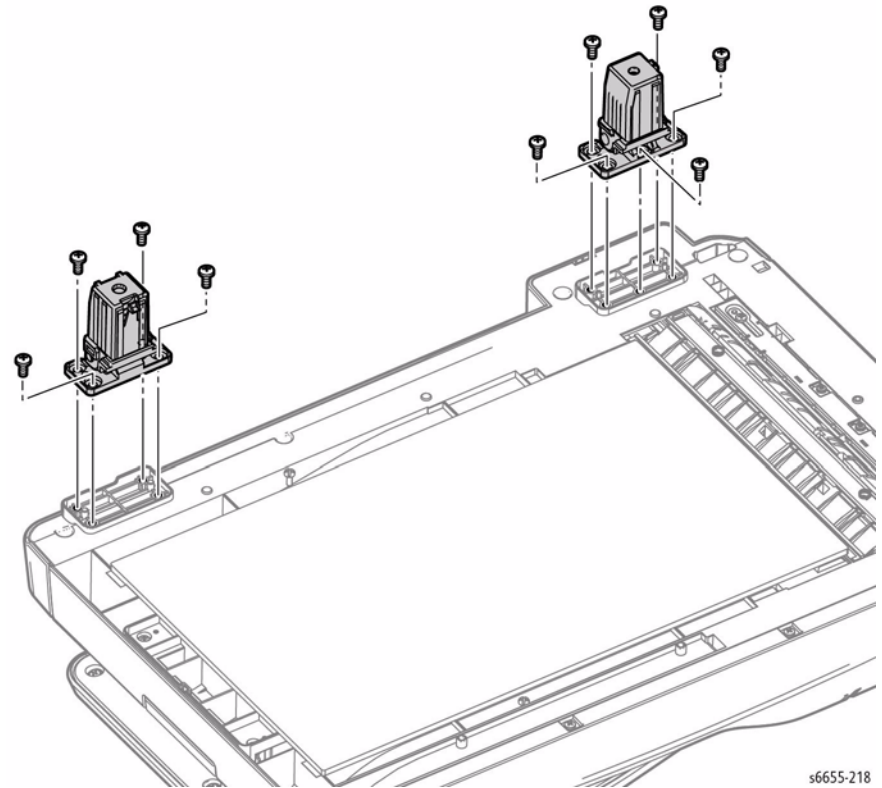

Figure 1 Remove the DADF Hinges
2. Refer to Figure 1 to locate and remove four screws (silver, tapping, 8 mm) to remove the Right Hinge or five screws (silver, tapping, 8 mm) to remove the Left Hinge.